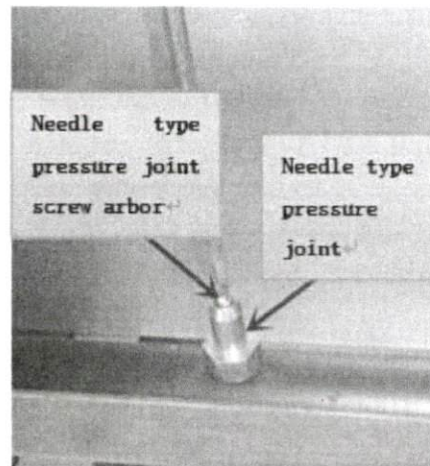

Fig. 1
- Remove top panel, and needle type pressure joint screw arbor (Fig.1), then slip rubber tube of pressure gauge over needle type pressure joint;